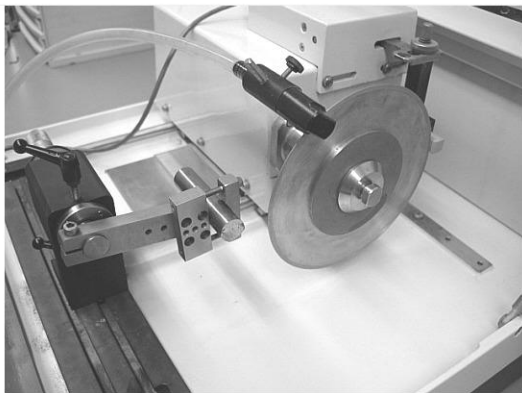

Figure 9 Positioning the specimen
2. Turn the hand crank clockwise until the blade is beyond the chuck position (see Figure 9).
- a. Position the specimen in the chuck so the cutting blade can pass by the chuck without touching the specimen (see Figure 9).